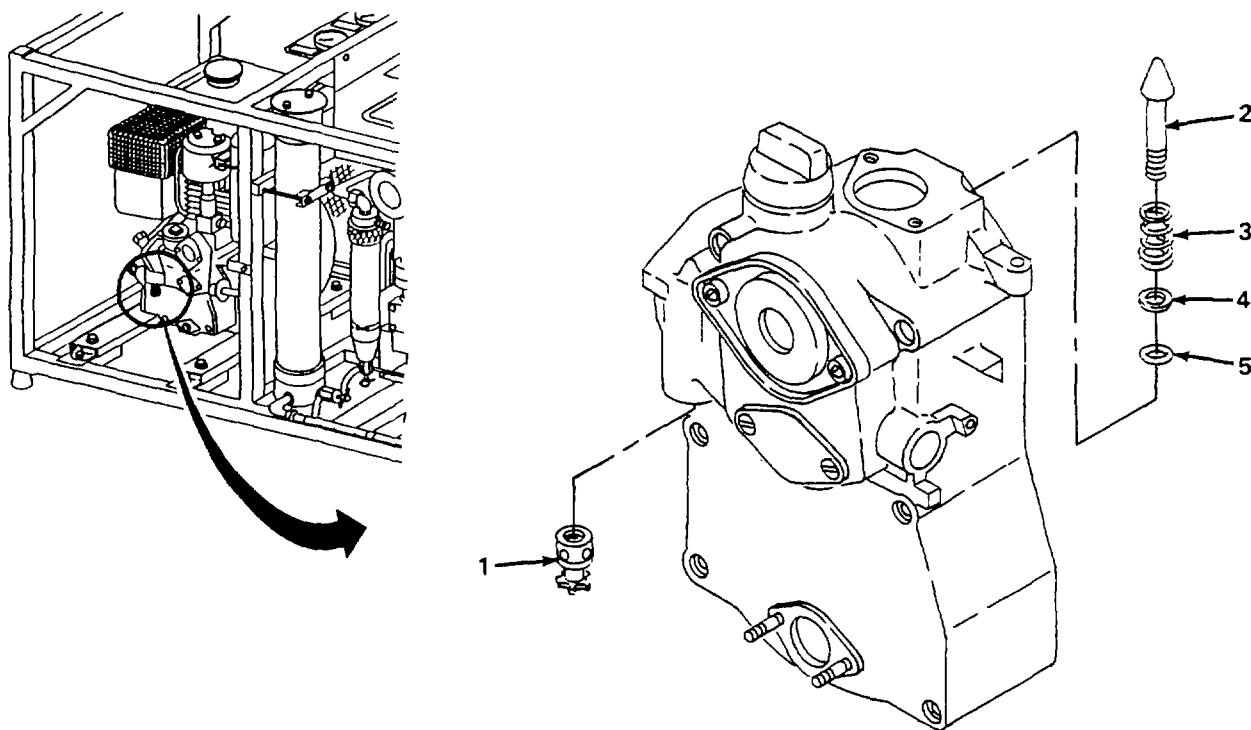

Figure 6-16. Primer Assembly, Replace.
- (2) Replace primer assembly. (figure 6-16)
- (b) Pull off knob (1) and remove pin (2), spring (3), washer (4), and preformed packing (5). Discard preformed packing (5).
- (c) Install new spring (3), washer (4), and new preformed packing (5) on pin (2).